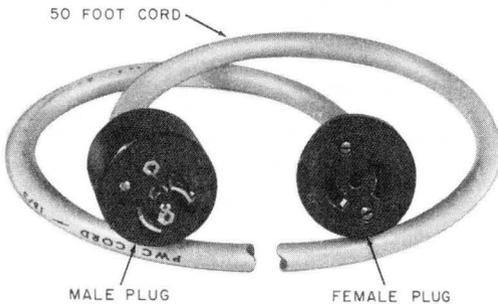

Fig. 5—B Weatherproof Cord
2.05 The B weatherproof cord (Fig. 5) is used to provide a telephone connection between the post-mounted jack at the service pad and the jack on the recreational vehicle in a trailer park or between the dock and boat in a marina. It consists of a 50-foot, 16-gauge 3-wire (ring, tip, and ground) yellow PVC insulated flexible cord, with PHONE stamped on the cord at 1-foot intervals
- One B weatherproof cord (for making connection between post and vehicle, Fig. 5)